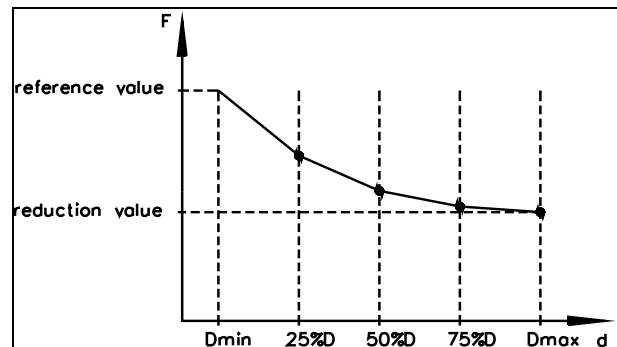

Fig. 29: Parametrisation of taper function
To cope with the unequal tensions requirements of an empty or full reel, a so called Taper Function can be introduced in the control loop. The Taper Function must be parametrised and the corresponding values have to be entered in specially prepared parameters for this function. The basic information that has to be entered in the controller concern the reel dimensions and its change during the un- or rewinding process (see Fig. 29). The taper function must be activated in the 7.4 "Function Parameter Group" with the parameter *TaperFct* set to "yes". Only then the respective parameters will appear in the parametrisation menu. These parameters (*MinTaper*, *MaxTaper*, *Ref25%d*, *Ref50%d*, *Ref75%d*, *Ref100%d*) are then stored in the 7.6 "Configuration Parameter Group".
- In the parameter group *Adjustment Procedures* select the procedure *Diameter*. Follow the instruction in Fig. 29: State Diagram Adjustment Procedure "Diameter".
Set the parameters *Ref25%d*, *Ref50%d*, *Ref75%d* and *Ref100%d* in the 7.6 „Configurations-Parameter List“ such that it results in the desired taper function curve (see Fig. 29).